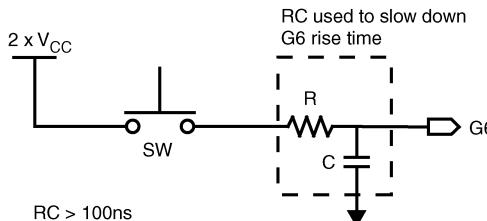

Figure 5-8. Circuit Diagram for Implementing the 2 x Vcc
4. After V_{CC} is valid and stable, connect a voltage between $2 \times V_{CC}$ and $V_{CC}+7V$ to the G6 pin. Ensure that the rise time of the high voltage on G6 is slower than the minimum in the Electrical Specifications. **Figure 5-8** shows a possible circuit diagram for implementing the $2 \times V_{CC}$. Be aware of the typical input current on the G6 pin when the high voltage is applied. The resistor used in the RC network, and the high voltage used, should be chosen to keep the high voltage at the G6 pin between $2 \times V_{CC}$ and $V_{CC}+7V$.